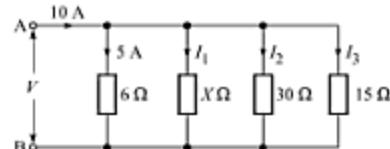

Fig. 2.43
17. In the network shown in Fig. 2.43, calculate (a) the current in the other resistances, (b) the value of the unknown resistance X , and (c) the equivalent resistance between points A and B.